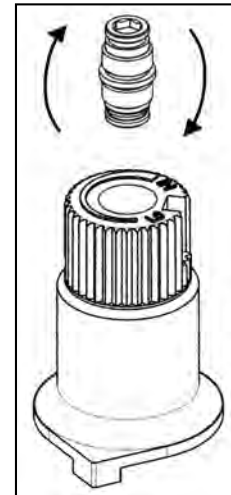

Figure 11: Flip
- Flip the screw (refer to Figure 11).